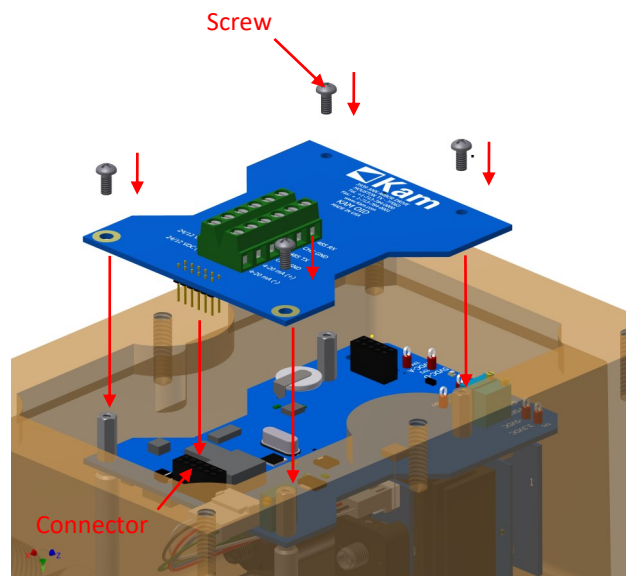

Figure 1.3.9
9. Connect the terminal board assembly to the digital board connectors. Make sure the board aligns with the standoffs. Secure it using four (4) 4-40 x 1/4" Pan Phillips Screw with a small amount of thread lock. See figure 1.3.9.